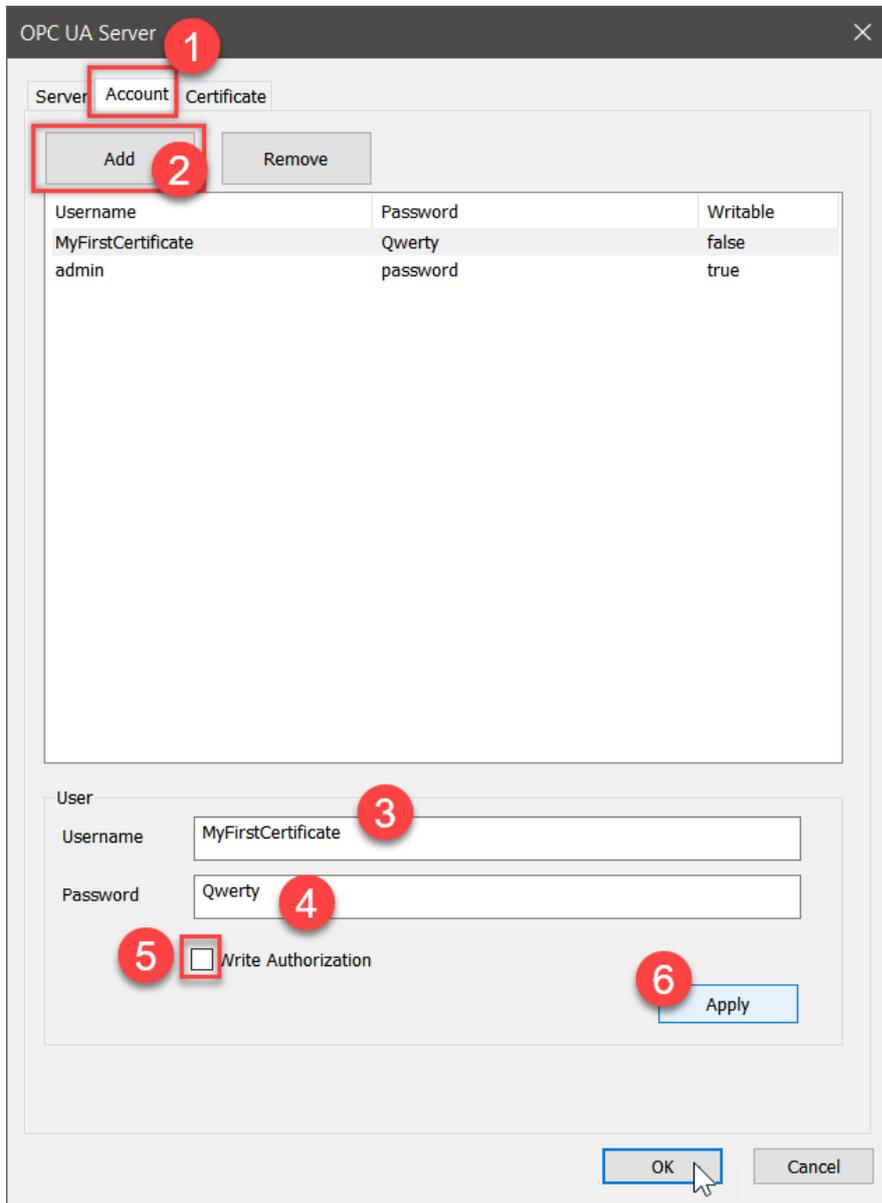

Figure 8.3.3.B
- **Step 2:** Add the 'Common Name' (CN) to the user account list.
3. Enter the 'Common Name' (CN) of the X509 certificate (Figure 8.3.3.A) to the 'Username' edit box (Figure 8.3.3.B).
(Figure 8.3.3.A)